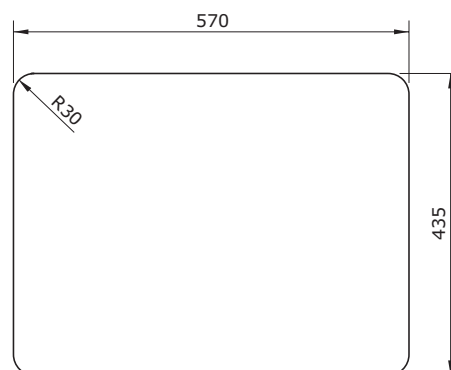

Fig. 1.8
CLOX4040WH/ (Fig. 1.8)
- The cut out details are shown in **(Fig. 1.7)** or **(Fig. 1.8)** ensure perfect positioning of this product. The cutout template is also available online www.rangemaster.co.uk.